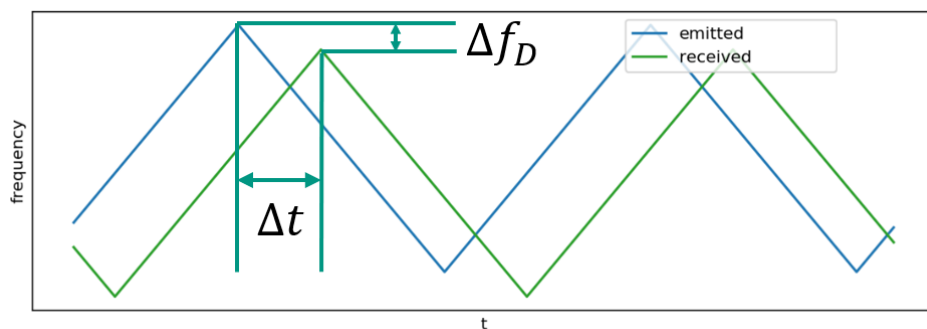

Figure 1: Emitted and received frequencies of a LiDAR Sensor
4. Figure 1 shows the emitted and received signal frequency of a LiDAR sensor with a moving obstacle. Explain the reason for the delta in the peak frequency Δf_D . How is the distance from the obstacle to the sensor calculated? 2 p.